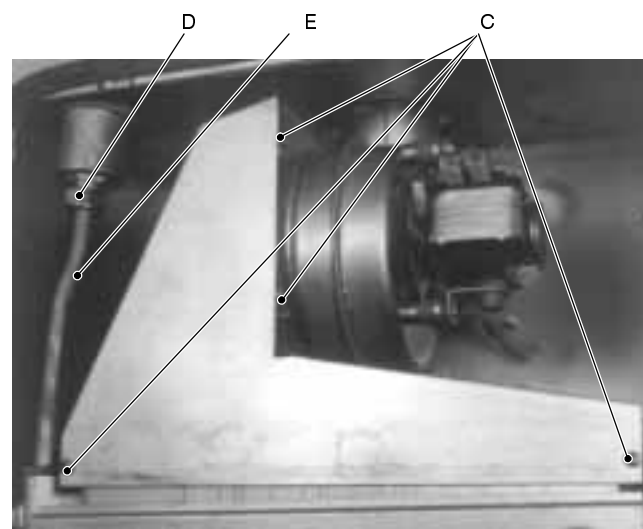

fig. 15b
- 4b Remove the front part of the flue gas hood by unscrewing the four screws C (fig. 15b)
- 9 Unscrew the pipe E (fig. 15b) from the heat exchanger;